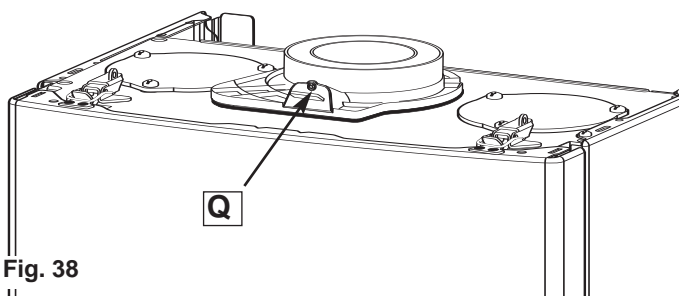

Fig. 38
3. Turn on the combustion analyser, remove the combustion test point plug **Q** (Fig. 38) and insert the analyser probe into the test point;